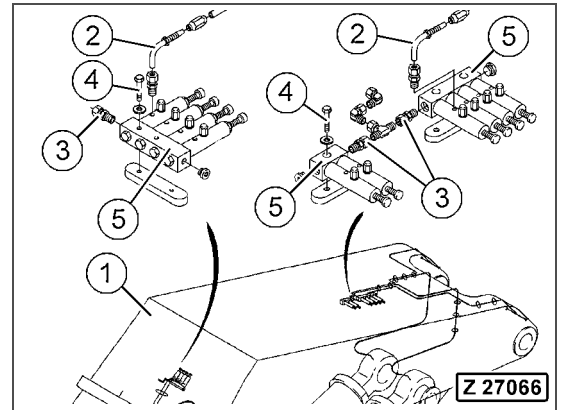

Fig. 5-162
5. Disconnect all grease lines (Fig. 5-162, Pos. 2) from the metering valve assemblies (Fig. 5-162, Pos. 5).
6. Disconnect the grease feeding line at the union (Fig. 5-162, Pos. 3).
7. Remove the bolts (Fig. 5-162, Pos. 4), and remove the metering valve assemblies (Fig. 5-162, Pos. 5) from the boom (Fig. 5-162, Pos. 1).